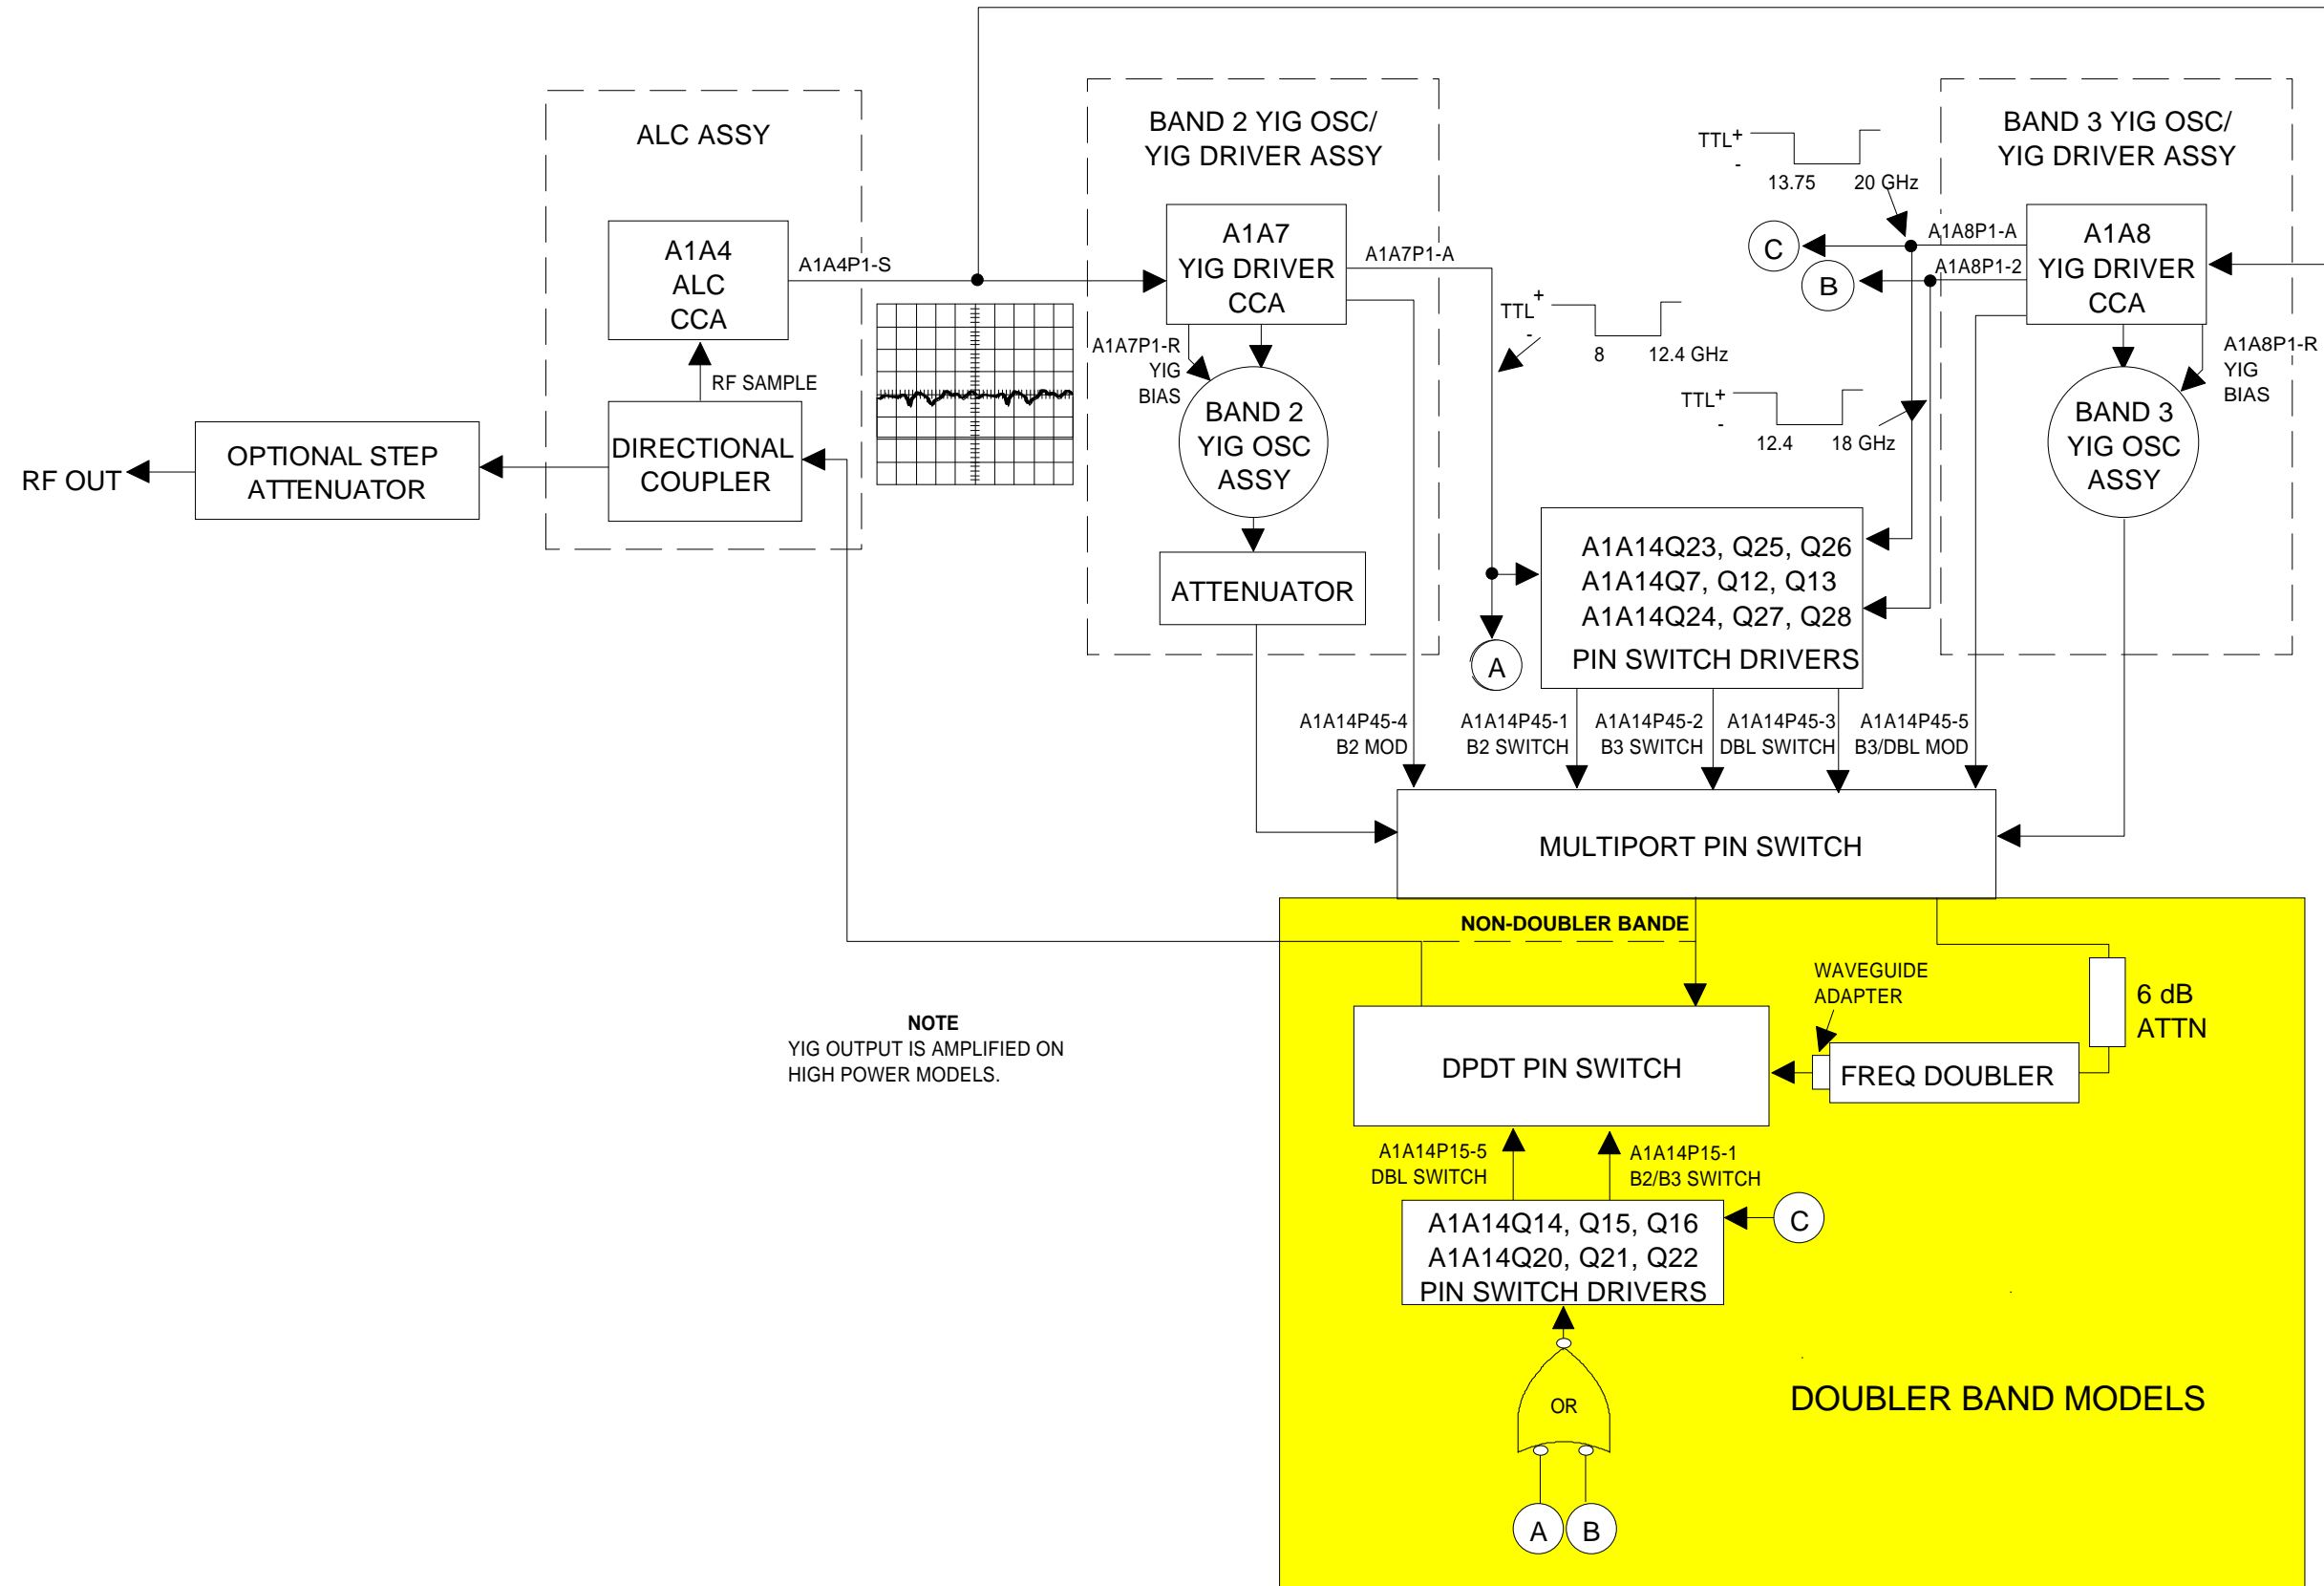

Figure 3-2. YIG Bands 2, 3, and Doubler ALC Troubleshooting Diagram
- Refer to Figure 3-2 for a troubleshooting diagram.